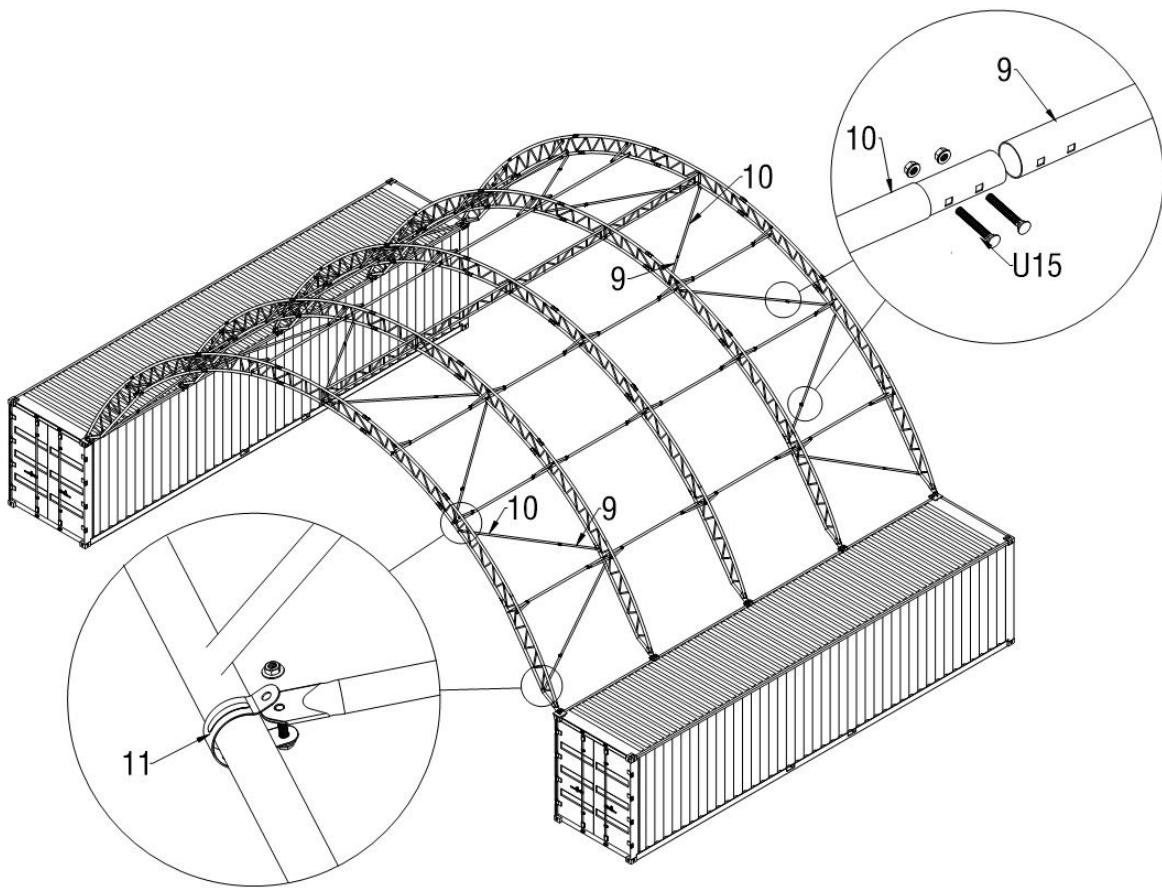

Figure 10
2.6. Connect the Diagonal Support tubes (Part no.9 and no.10) by using Carriage bolt M8x60mm (Part no.U15), then install the diagonal support tubes to the arches by using clips (Part no.11) as below Figure 10 shows. There are total two groups x diagonal support tubes as the figure shows.